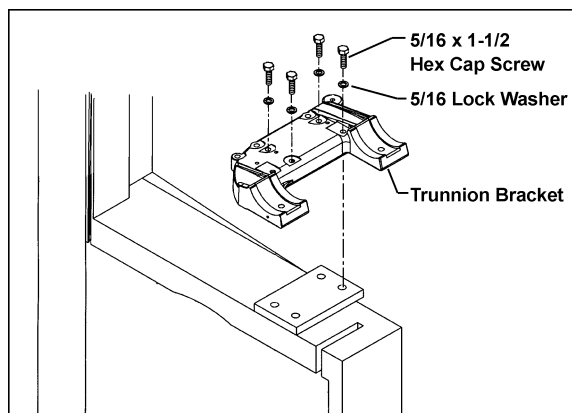

Figure 1
8. Set the new trunnion bracket into place on the band saw, and insert four 5/16 x 1-1/2 hex cap screws with four 5/16 lock washers (Figure 1). Tighten the screws.